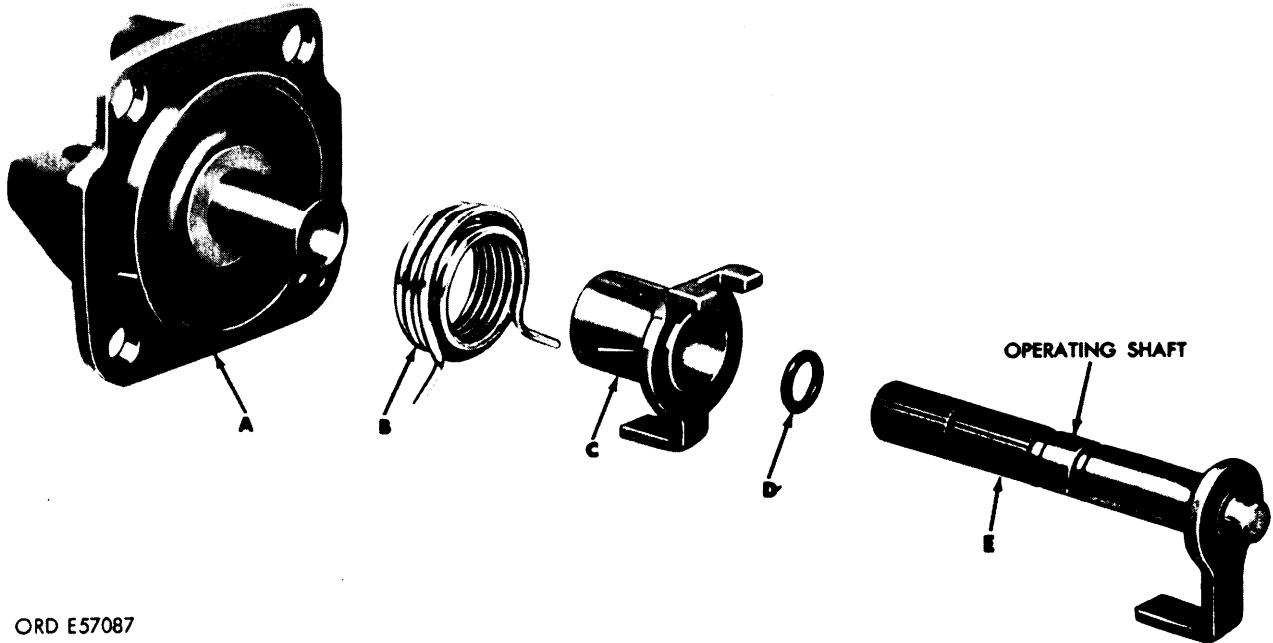

Figure 3-62. Disassembling operating shaft bearing and associated parts (all pumps except code A).
(10) Refer to figure 3-62. Remove operating shaft (E), operating-shaft spring (B), and shaft spring plate (C) from bearing (A). See note. Remove and discard operating shaft preformed packing (D).